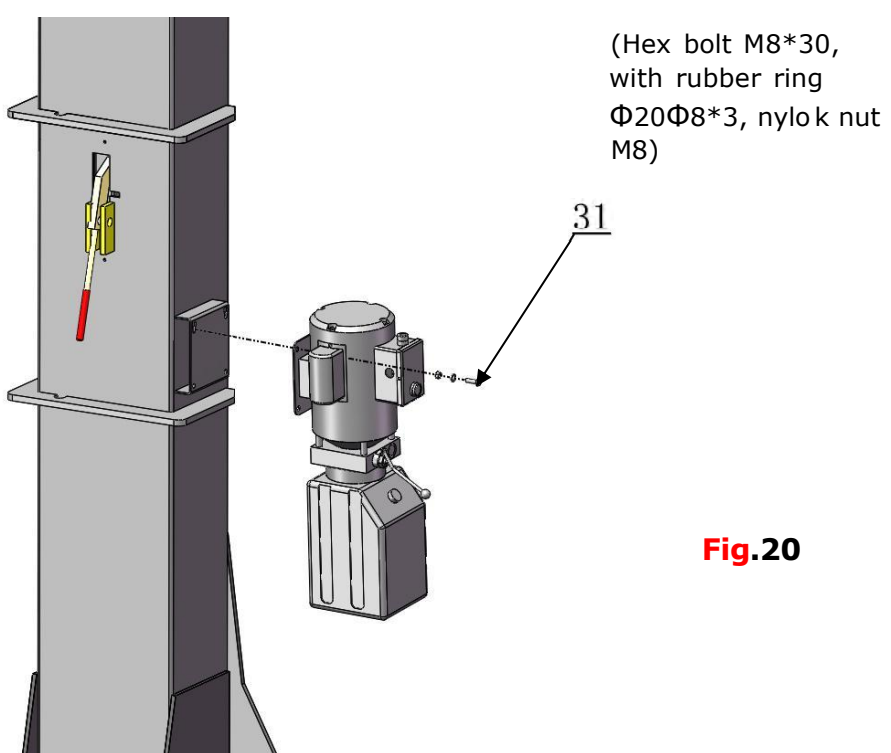

Fig.20
1. Install power unit. (See Fig.20)